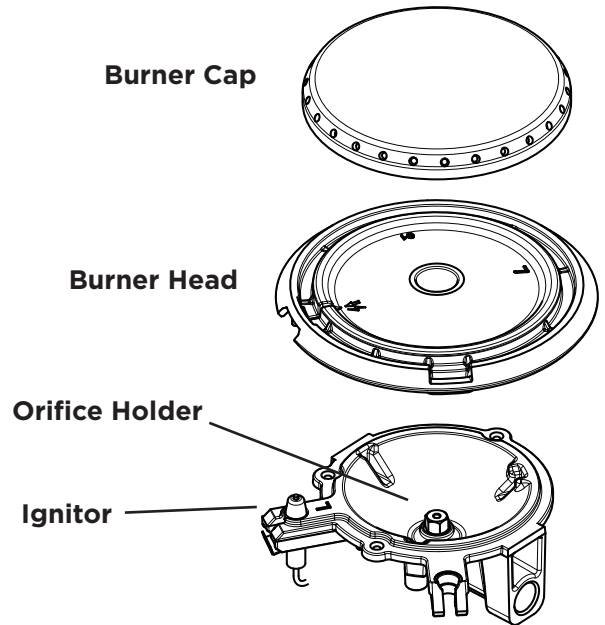

Figure 14: Removeable burner components
1. Remove the burner cap and burner head (see Figure 14). Clean the cap and head with hot soapy water and dry thoroughly.